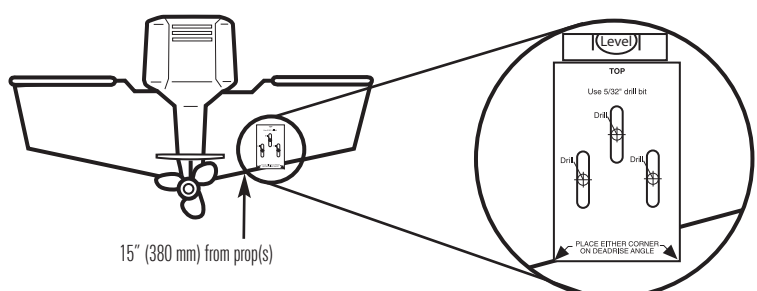

Figure 5
- As the boat moves through the water, turbulence is generated by the weight of the boat and the thrust of the propeller(s) - either clockwise or counterclockwise. This turbulent water is normally confined to areas immediately aft of ribs, strakes, or rows of rivets on the bottom of the boat, and in the immediate area of the propeller(s). Clockwise propellers create more turbulence on the port side. On outboard or inboard/outboard boats, it is best to locate the transducer at least 15" to the side of the propeller(s) (Figure 5).